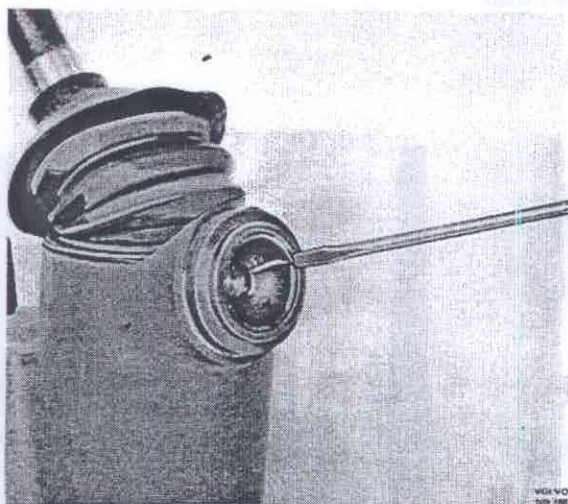

Fig. 63-6. Removing the upper bushing
4. Lift off the steering knuckle support (9) and remove the old sealing rings (3 and 11).
5. Knock out the old bushings (4 and 13) with a suitable tool, see Figs. 63-6 and 63-7.